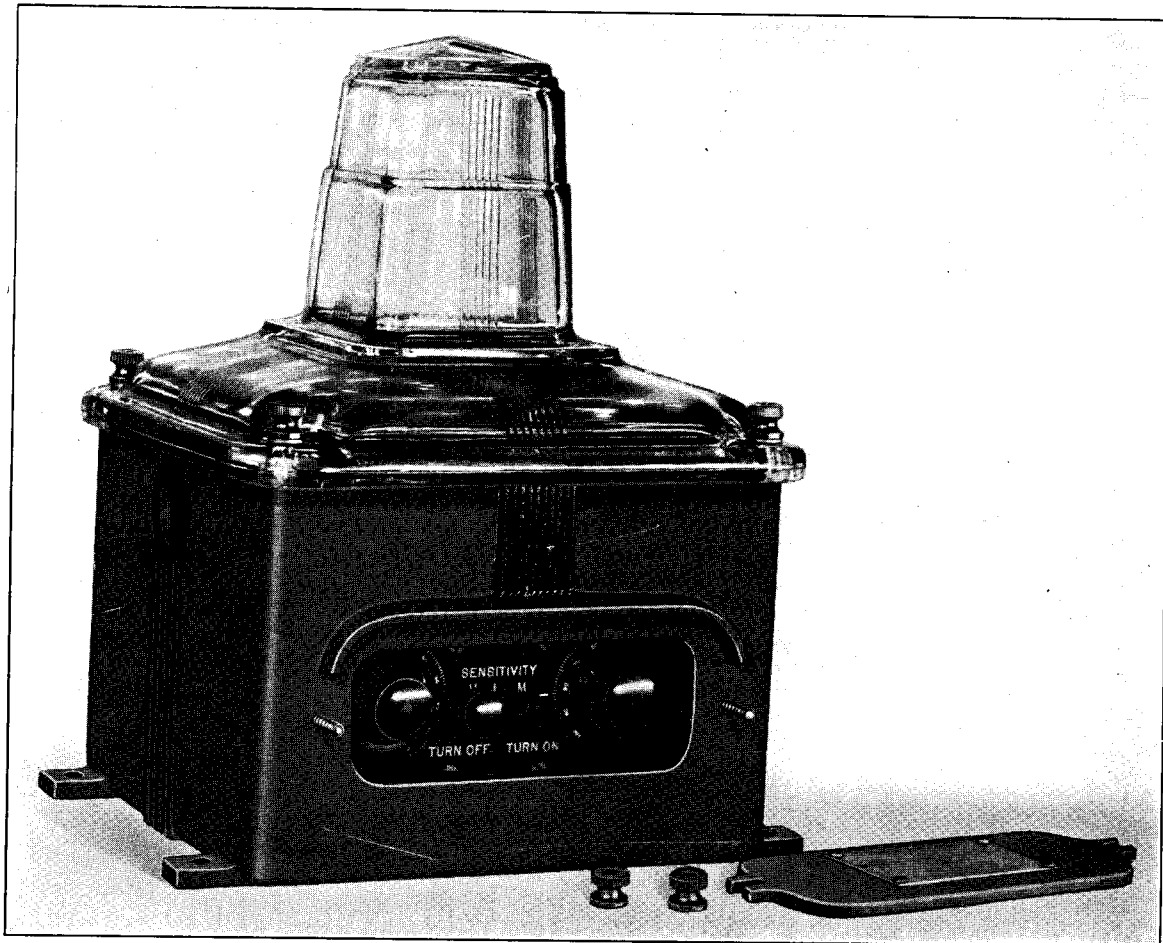

FIG. 1—PHOTO-ELECTRIC LIGHTING CONTROL RELAY WITH SIDE COVER REMOVED
A plug switch is provided to short circuit one condenser (M), or both condensers (L), or the plug may be placed in a storage position (H), Fig. 1. This arrangement, in connection with the two potentiometers, furnishes a simple and reliable control having maximum versatility. One of these potentiometers controls the residual bias (i.e., the bias that would exist with the photo tube dark) when the lights are on, and the other potentiometer controls the residual bias when the lights are off. The actual grid bias on the amplifier tube is the sum of this residual bias and the voltage drop across the impedance.
- (1) Always adjust the turn-off first; the turn-on adjustment has no effect on the turn-off, but a change in the turn-off adjustment will have a slight effect on the turn-on.
- (2) The lighting unit may be adjusted immediately after installation but should be readjusted after the first two days of operation. In making an initial adjustment always make it on the highest sensitivity range on which it can be secured. The sensitivity is controlled by a plug switch with the positions marked H, M, and L, to designate high, medium, and low, sensitivities. See Fig. 1. This arrangement makes it unnecessary to specify the sensitivity of the photo tube when reordering, and increases the useful life of the photo tube.
- (3) In general, the value of the natural illumination corresponding to turn-off should be approximately twice that for turn-on. The reason for this is three fold. In the first place natural light sometimes varies quite rapidly and when it does, the lights will be turned on or off with annoying frequency unless there is a reasonable differential allowed between turn-on and turn-off. Another reason is that a lighting control relay is not a device of absolute accuracy, being subject to small errors on account of variations in line voltage, ambient temperature, amplifier tube aging, etc. These errors usually affect the turn-off and turn-on points of the unit to approximately the same extent and in the same direction. In rare cases they will be in opposite directions and in order to guard against trouble from "hunting" in